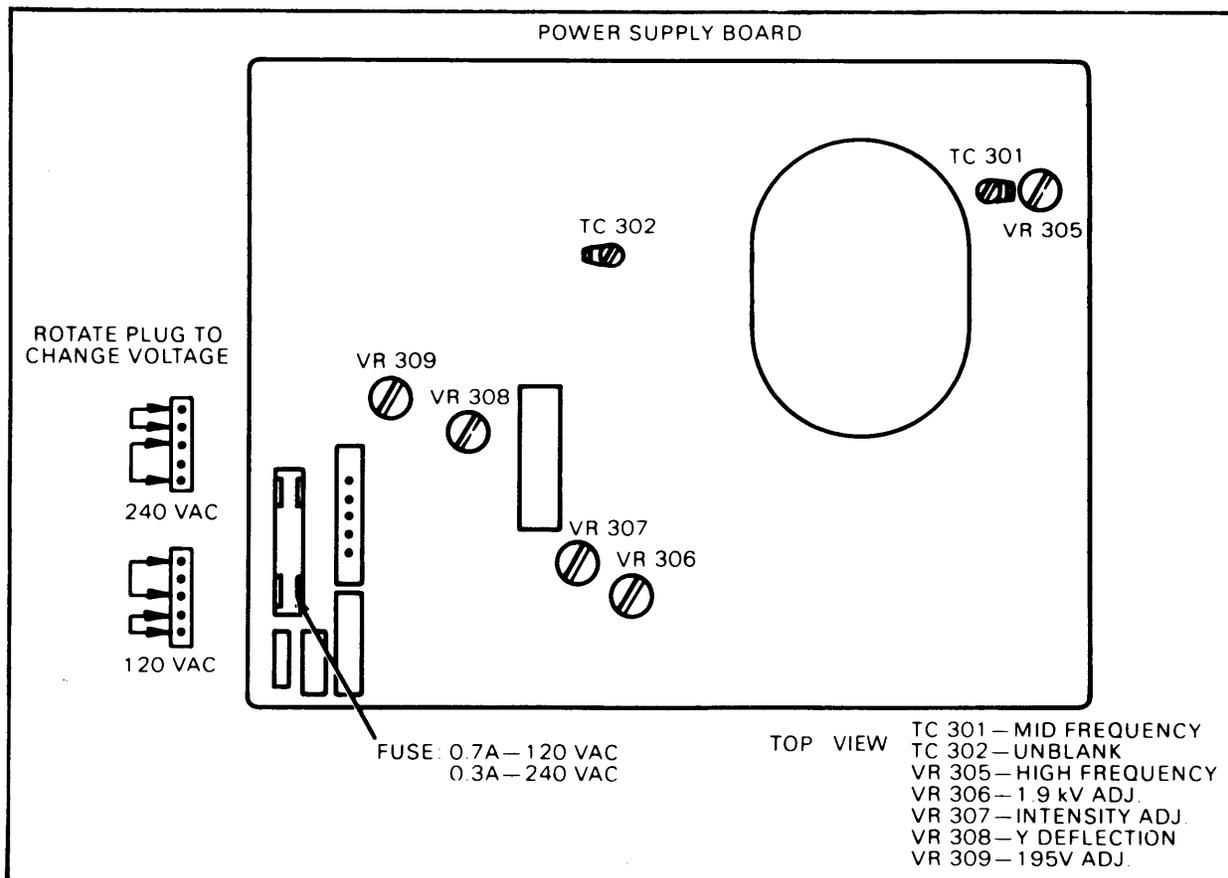

Fig. 8. Rear Printed Circuit Board (Power Supply)
2. Remove voltage selector plug (see Fig. 8).